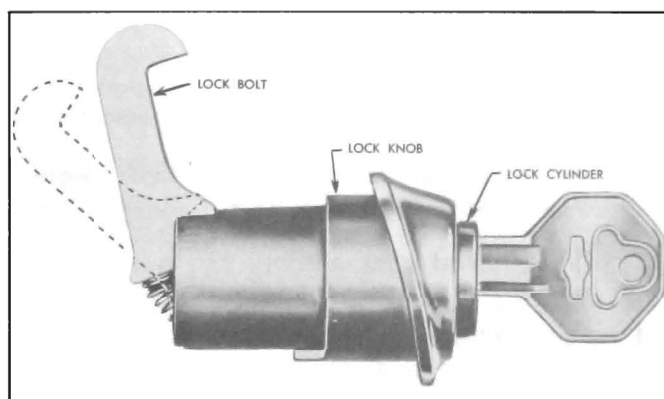

Figure 13-19—Instrument Panel Compartment Door Lock Cylinder Removal
3. Hold lock bolt in rear position, turn key clockwise 90° from unlocked position, and remove cylinder with key. See Figure 13-19.
1. Open door and remove door lock knob to retainer attaching screw. See Figure 13-19.